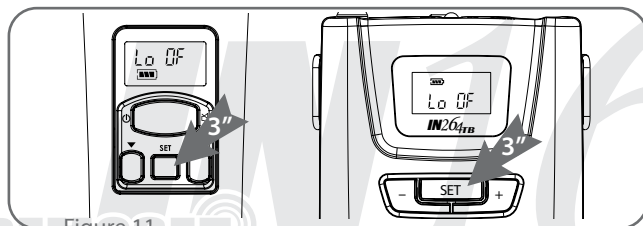

Figure 11
- (1) Press “Set” button ②① ②⑨ for 3 seconds to enter setting window. (Figure 11)
- (2) Press “Set” again until the Lock setting window shows.
- (3) Press “▲Up ②② ③①” or “▼Down ②③ ③①” button to select the mode between “Lock On” and “Lock off”.
- (4) After setting, press “Set” again to save the setting.